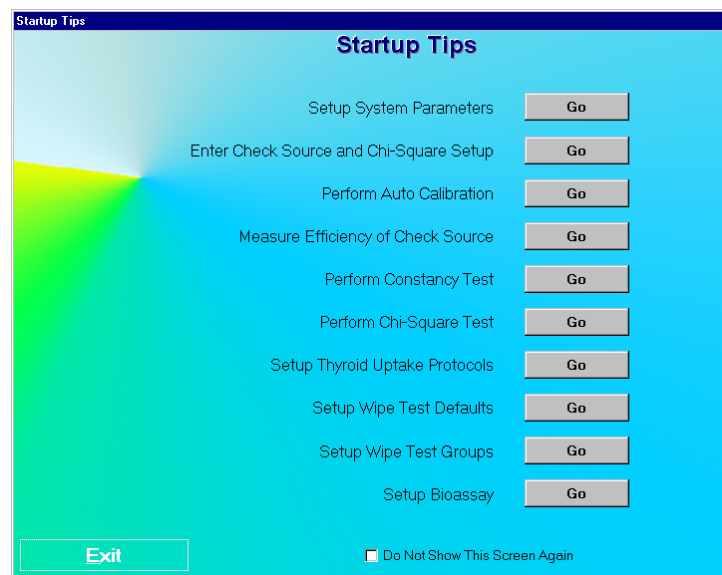

Figure 4-9 Startup Tips Window
If this is the first time the CAPTUS® 3000 software is run, the Startup Tips window will be displayed as shown in Figure 4-9 Startup Tips Window.
6. Click the **Done** button or press *Alt+D* to save the changes or click the **Cancel** button or press *Alt+C* to exit without saving the changes. Figure 4-9 Startup Tips Window will re-appear.